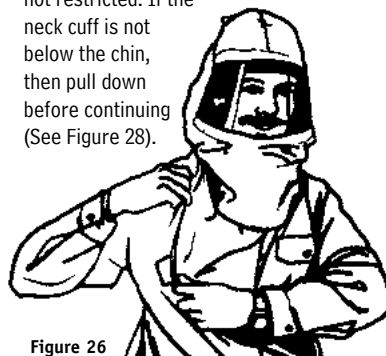

Figure 26
4. Tuck inner bib of hood into shirt or protective clothing if using hood with inner bib (see Figure 26).
8. Tuck inner bib of hood into shirt or protective clothing (see Figure 26).